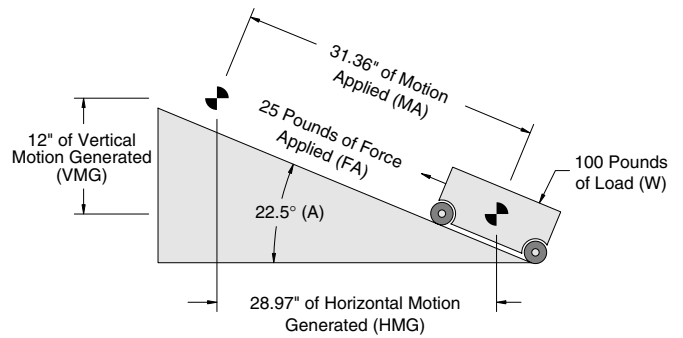

Figure 2-21 Inclined Plane
Figure 2-21 shows a schematic representation of an inclined plane and a rolling load. The force necessary to elevate the load is reduced in direct proportion to the angle of the plane. In the illustration, the 100 pound load (W) can be raised with only 25 pounds of applied force (FA) because the plane has an angle of 22.5° (A). The amount of force required